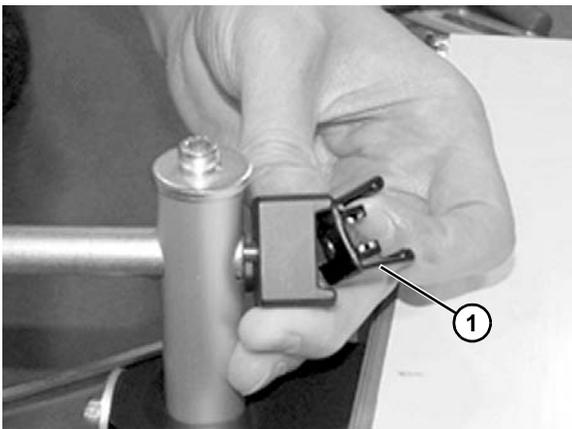

**Figure 77**
2. Tighten screws (**Figure 77, item 1**) making sure T-nut (**Figure 77, item 2**) rotates and engages inside of the T-slot.